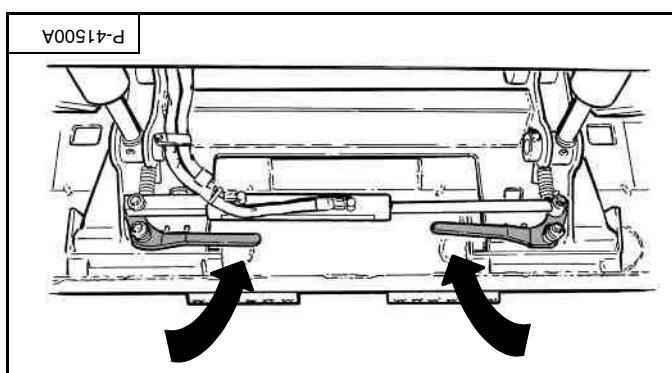
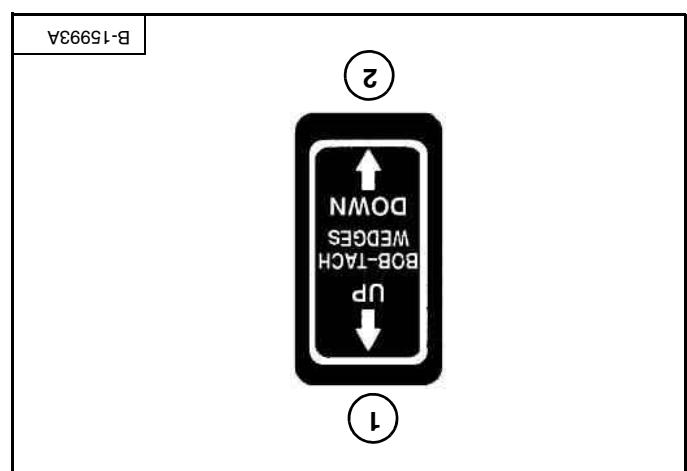

Figure 39
Figure 38
Push and hold the BOB-TACH "WEDGES UP" switch (item 1) [Figure 38] until the levers are fully raised (wedges fully raised).
Push and hold the BOB-TACH "WEDGES DOWN" switch (item 2) [Figure 38] until the levers are fully engaged in the locked position [Figure 39] (wedges fully extended through the attachment mounting frame holes).